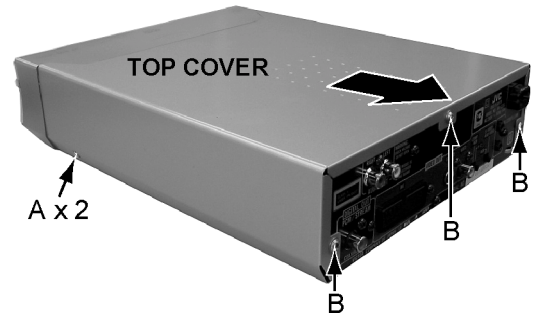

Fig.1
2.1.1 Removing the top cover (see Fig.1)